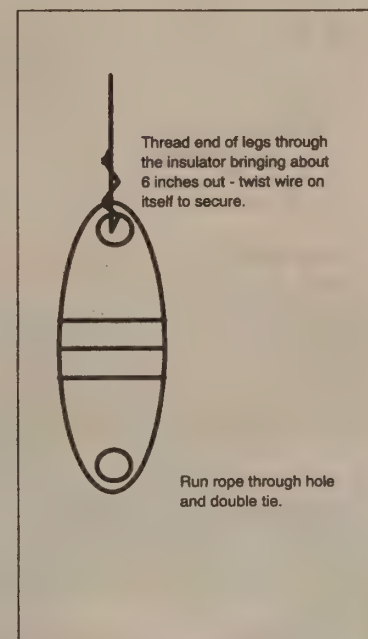

Figure 3.
Step 5. Attach an end insulator to each of the legs, as shown in Figure 3.